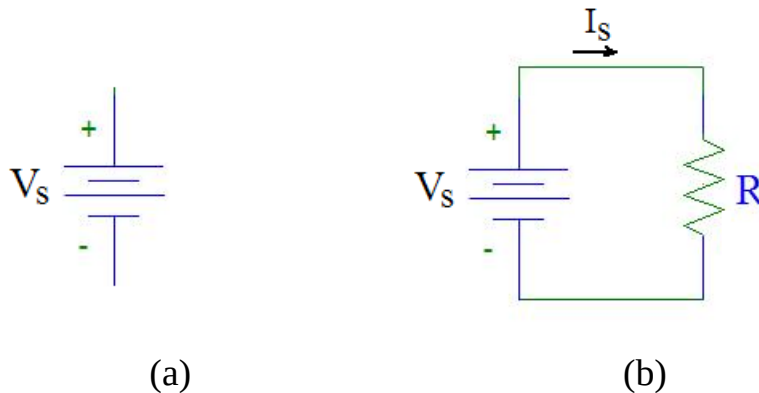

Figure 1. (a) Symbol for a DC voltage supply, and (b) a simple DC circuit.
Ideally, the DC voltage source output does not depend on the value of the load (i.e., resistance of the load); this means that any current can flow through the voltage source, as dictated by the load. Here, the power delivered by the source is equal to the product of V_s and the current I_s through the source, or $P = V_s I_s$. The implication, then, is that the DC voltage source is in fact a power source. The symbol for an ideal voltage source is shown in Figure 1-a.
The simplest circuit involving a DC voltage source is shown in Figure 1-b. Here, the voltage across the resistor (V_s) is constant and is set by the voltage source. On the other hand, the current in the resistor is determined by the value of R , according to Ohm's Law $I = V_s/R$ (for this circuit, $I = I_s$); we say that the current through the resistor is inversely proportional to resistance. For example, if $R = 1\text{k}\Omega$ and $V_s = 5\text{V}$, then, $I = 0.5\text{mA}$. In the limit as $R \rightarrow 0\Omega$ (i.e., the load is a short circuit), the current would approach infinity! This is physically impossible, because it implies that the source is capable of supplying infinite power (power dissipated in the resistor is given by $P = V_s I = \frac{V_s^2}{R} \rightarrow \infty$, as $R \rightarrow 0$).
In practice, a DC voltage supply can maintain a constant output voltage, but only over a finite range of supplied current. Typically, and as a safety feature, the DC power supply allows the user to set the *maximum (limit) current* (I_{max}) that can be delivered to the load. Here, if the user accidentally connects the power supply to a circuit that has very low input resistance, the supply will limit the current and prevent damage to the circuit. In this situation, the supply voltage drops from its initial set value to a lower value that is consistent with Ohm's law. For example, consider the circuit in Figure 1-b with a practical DC power supply. Let V_s and I_{max} be set to 6V and 40mA, respectively. Now, consider two scenarios: (1) $R = 1000\Omega$ and (2) with $R = 100\Omega$. In the first scenario, and according to Ohm's law, the resistor (and supply) current is equal to $6/1000 = 6\text{ mA}$. This value is well below the 40mA maximum supply current; therefore the supply is capable of maintaining the 6V across the resistor. On the other hand, for the second scenario, the required load current is equal to $6/100 = 60\text{mA} > I_{max}$. Here, the power supply internal circuit is forced to adjust its output voltage; otherwise, Ohm's law would be violated. Therefore, the power supply (delivering the maximum current of 40mA) automatically changes its V_s to $(100\Omega)(40\text{mA}) = 4\text{V}$.